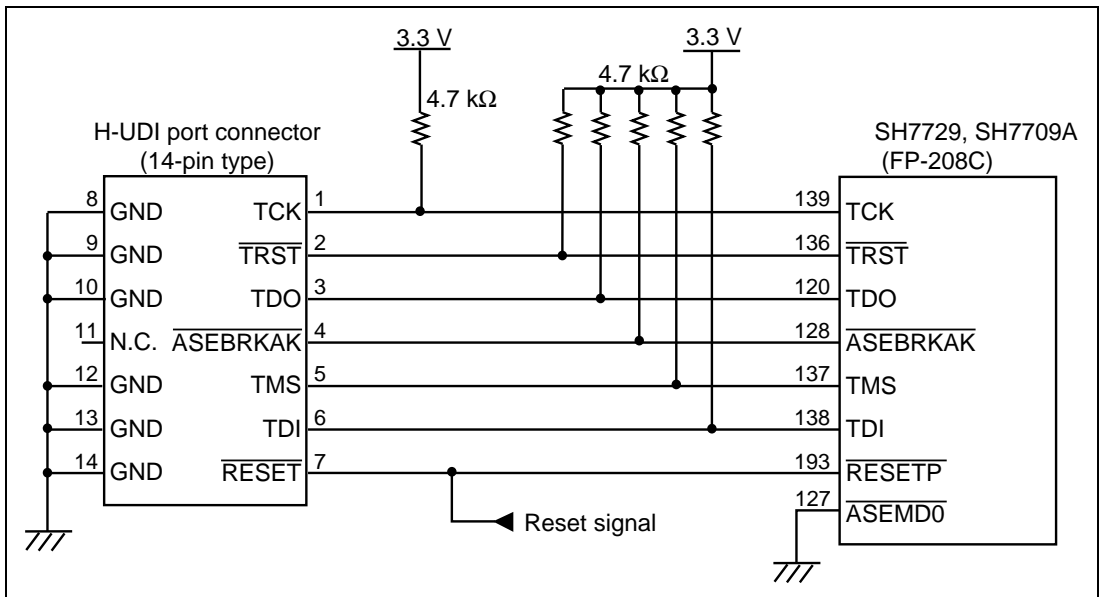

Figure 1.5 Recommended Circuit for Connection between the H-UDI Port Connector and MPU (14-Pin Type)
Figure 1.5 shows a recommended circuit for connection between the H-UDI port connector (14 pins) and the MPU.
- The resistance values shown in figure 1.5 are recommended.